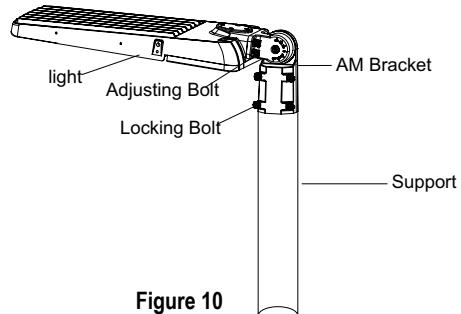

Figure 10
- NOTE: adjustable angle 0-90° (See Fig. 10)*